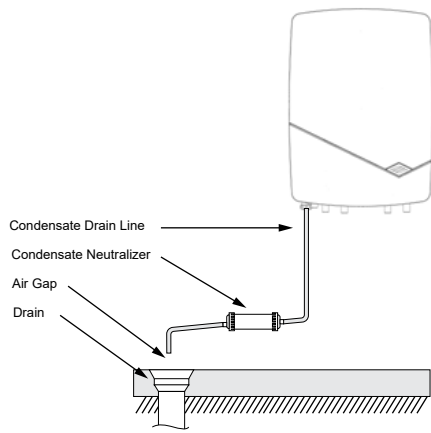

Figure 5.4: Condensate to a Neutralizer
3. To a condensate neutralizer (Figure 5.4)